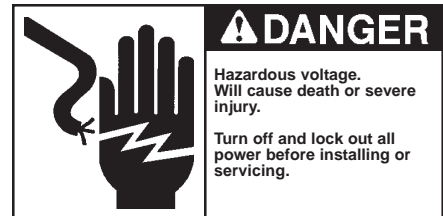

**Fig. 2**
2. For those applications where mounting is on a flat surface of the customers equipment, drill and tap mounting bolt holes according to the drilling plan in Fig. 2. For handle escutcheon cut out plans refer to Fig. 2.